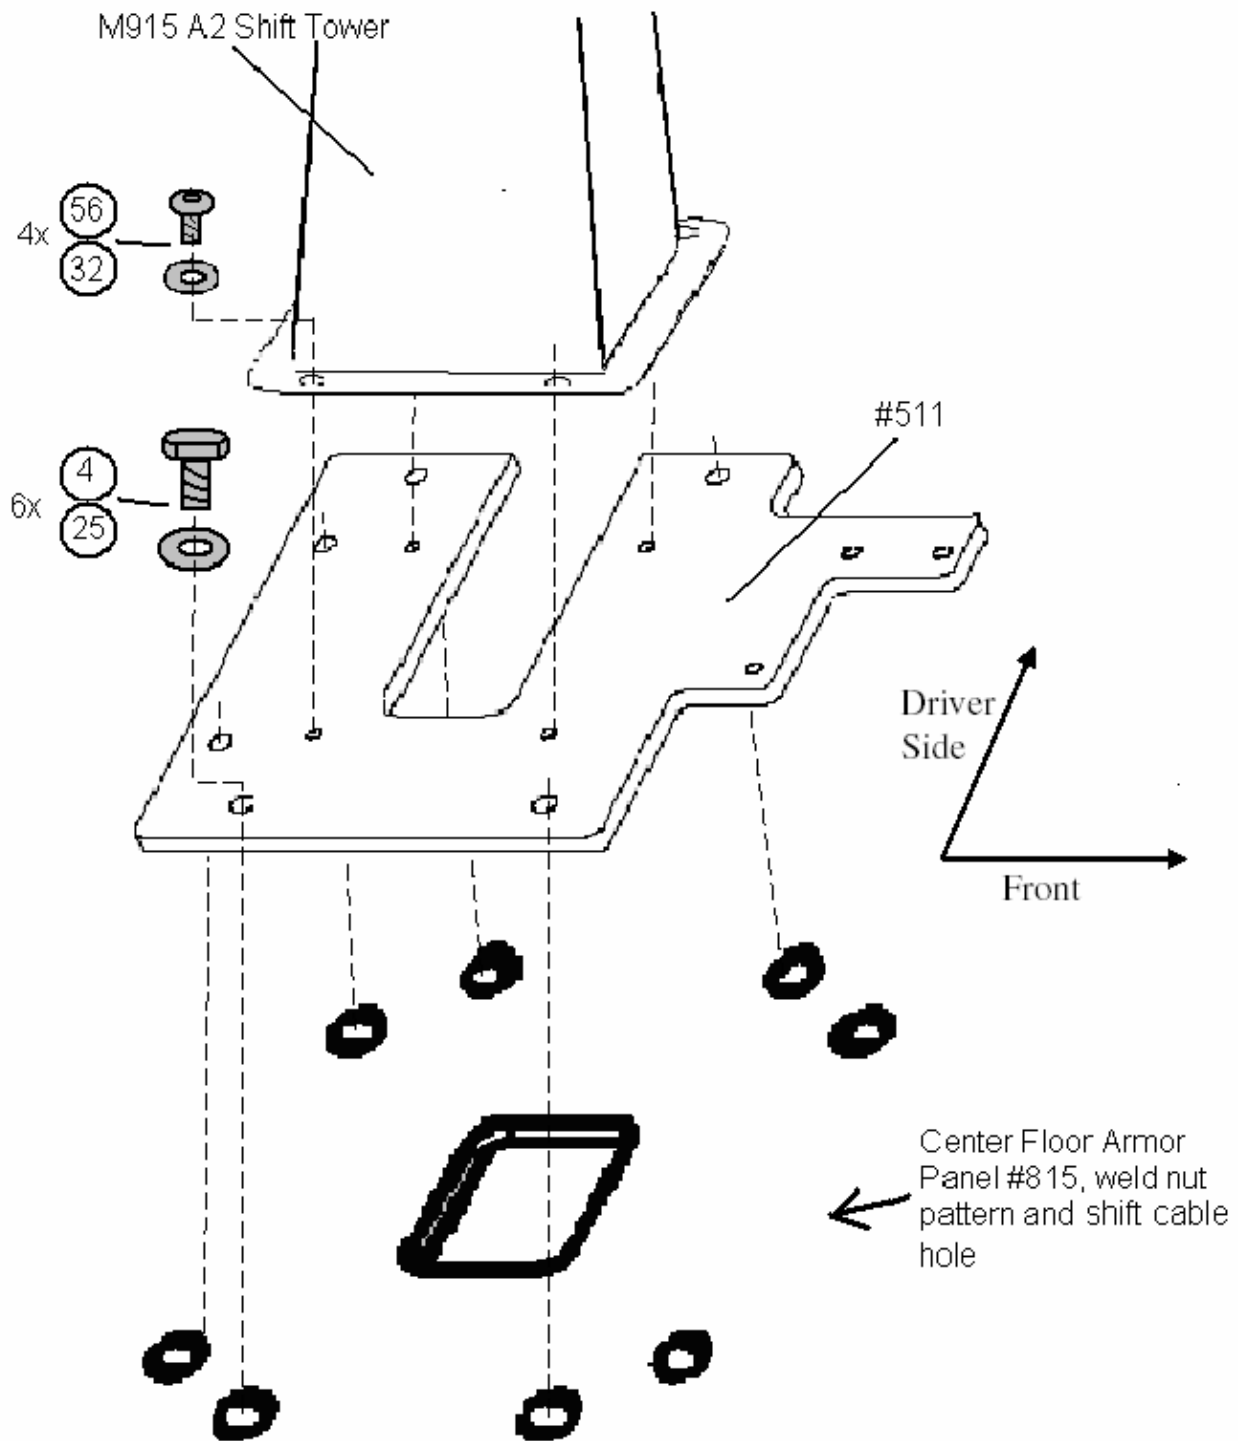

Figure 7-10. Shift Tower Installation.
Parts (see Figure 7-10):
Fasteners: (see Figure 7-10)
2. Feed the shifter cable up through the square hole in the center floor panel and the adapter plate. Re-attach the shift cable to the shift tower and bolt the shift tower to the shift tower adapter part #511 (see Figure 7-10). Apply thread-locking compound to the screws.